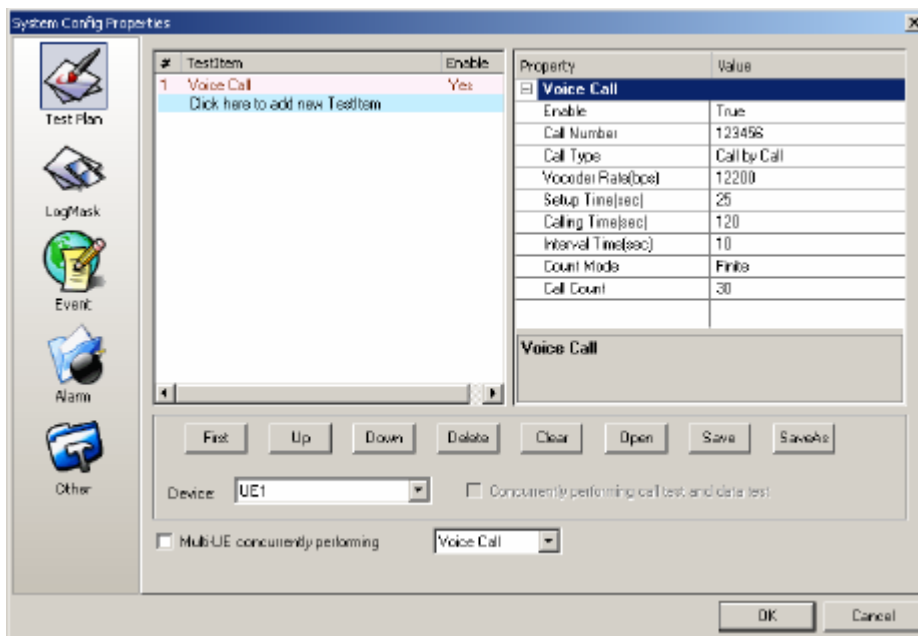

Figure 2-4 Setting parameters
- 3) Set the voice call parameters, such as, call number and calling time, as shown in Figure 2-4.